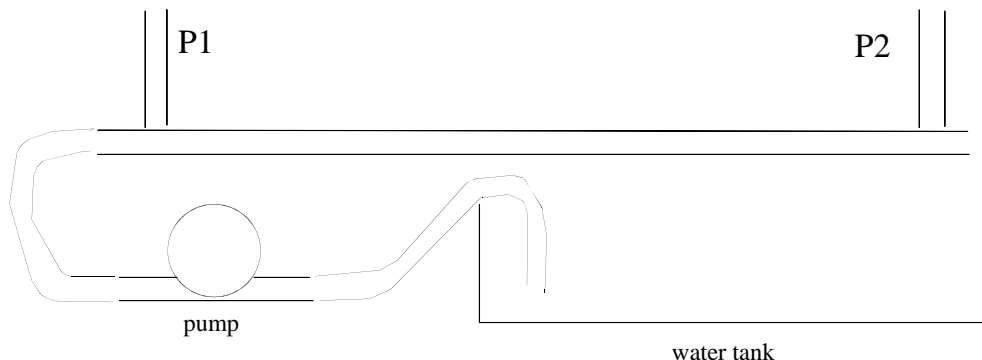

Figure 2: Schematic diagram of the apparatus, including the pump and water reservoir.
1. A sketch of the experimental setup is shown in Fig. 2. A small electric pump takes water from the tank, and pushes it through the glass tube before being returned to the tank. You may assume that the diameter of the glass tube is 1.2 ± 0.1 mm.